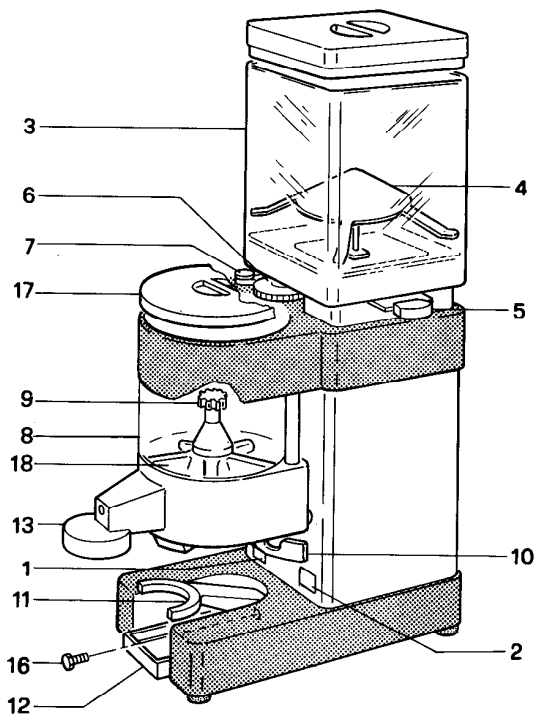

Fig.7
7.3 Adjustment of the ground coffee dose Fig. 7
8. OPERATION Fig. 7